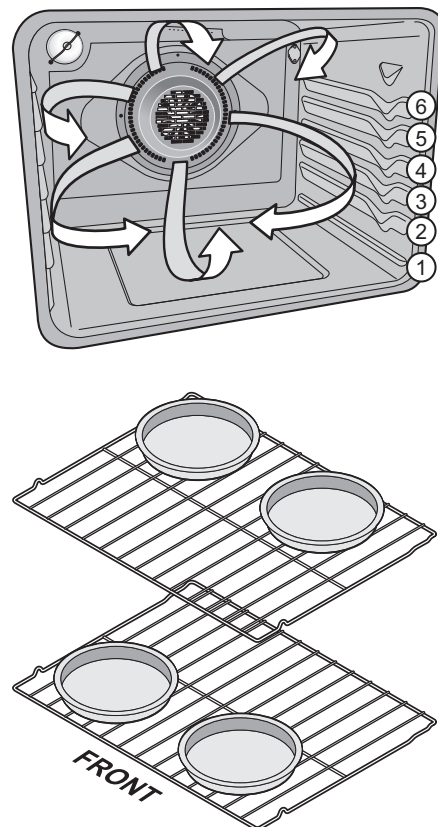

Figure 28: Rack positions and pan placement
- For best results when baking layer cakes using two oven racks, place racks in positions 3 and 5 and place pans as shown in Figure 28.